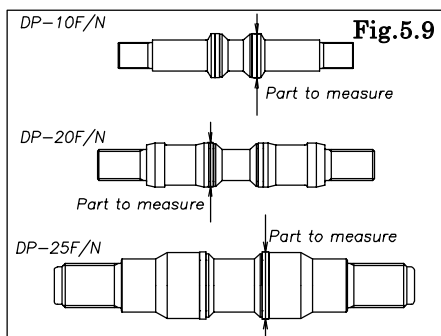

Fig.5.9
* Center rod (Slipper seal) [Fig.5-9]